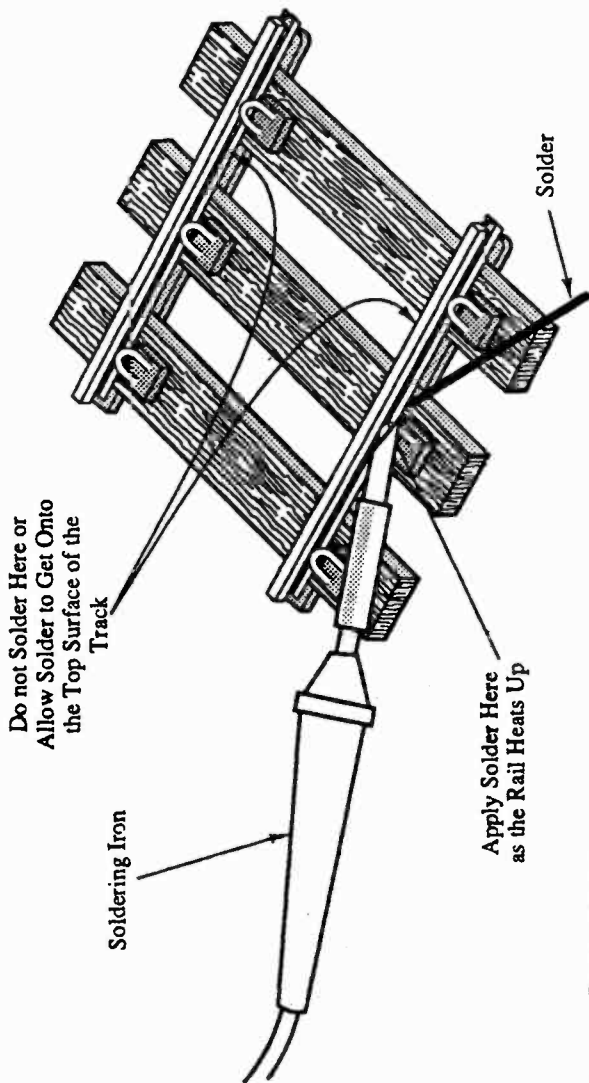

Fig. 10.1 Tinning the rail
- (ii) Apply the soldering iron bit to the outside of the rail and allow the rail to heat up (Figure 10.1).